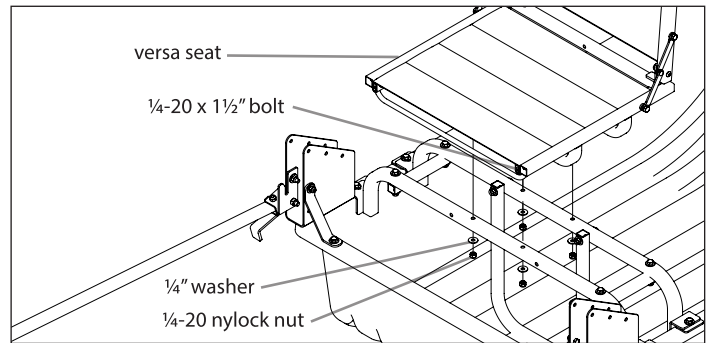

FIGURE 5
8. To attach the seat/swivel assembly, from Step 7, to the seat rail (14818), use the remaining hardware found in the small parts bag (15752) -- (4) ¼-20 x 1½" bolts, (8) ¼" washers and (4) ¼-20 nylock nuts. **SEE FIGURE 5**